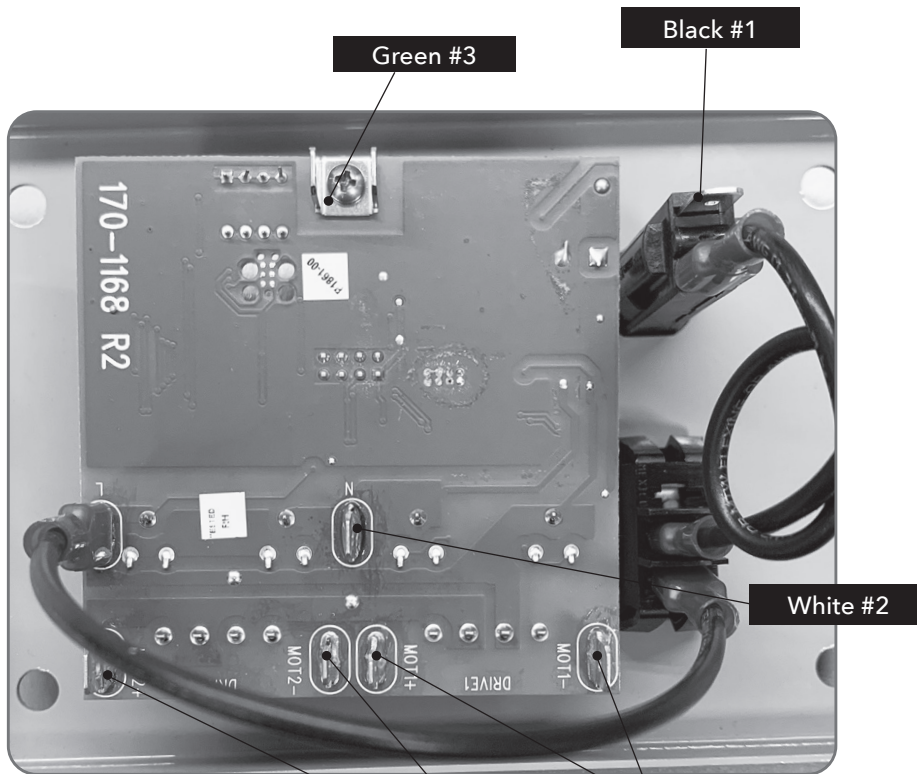

Figure 8
3. Remove four screws holding controller faceplate into main casting. Note the position of the main power and motor wires on the controller, then disconnect the wires. (See Figure 8) for the two motor wires and the main power cord wires.